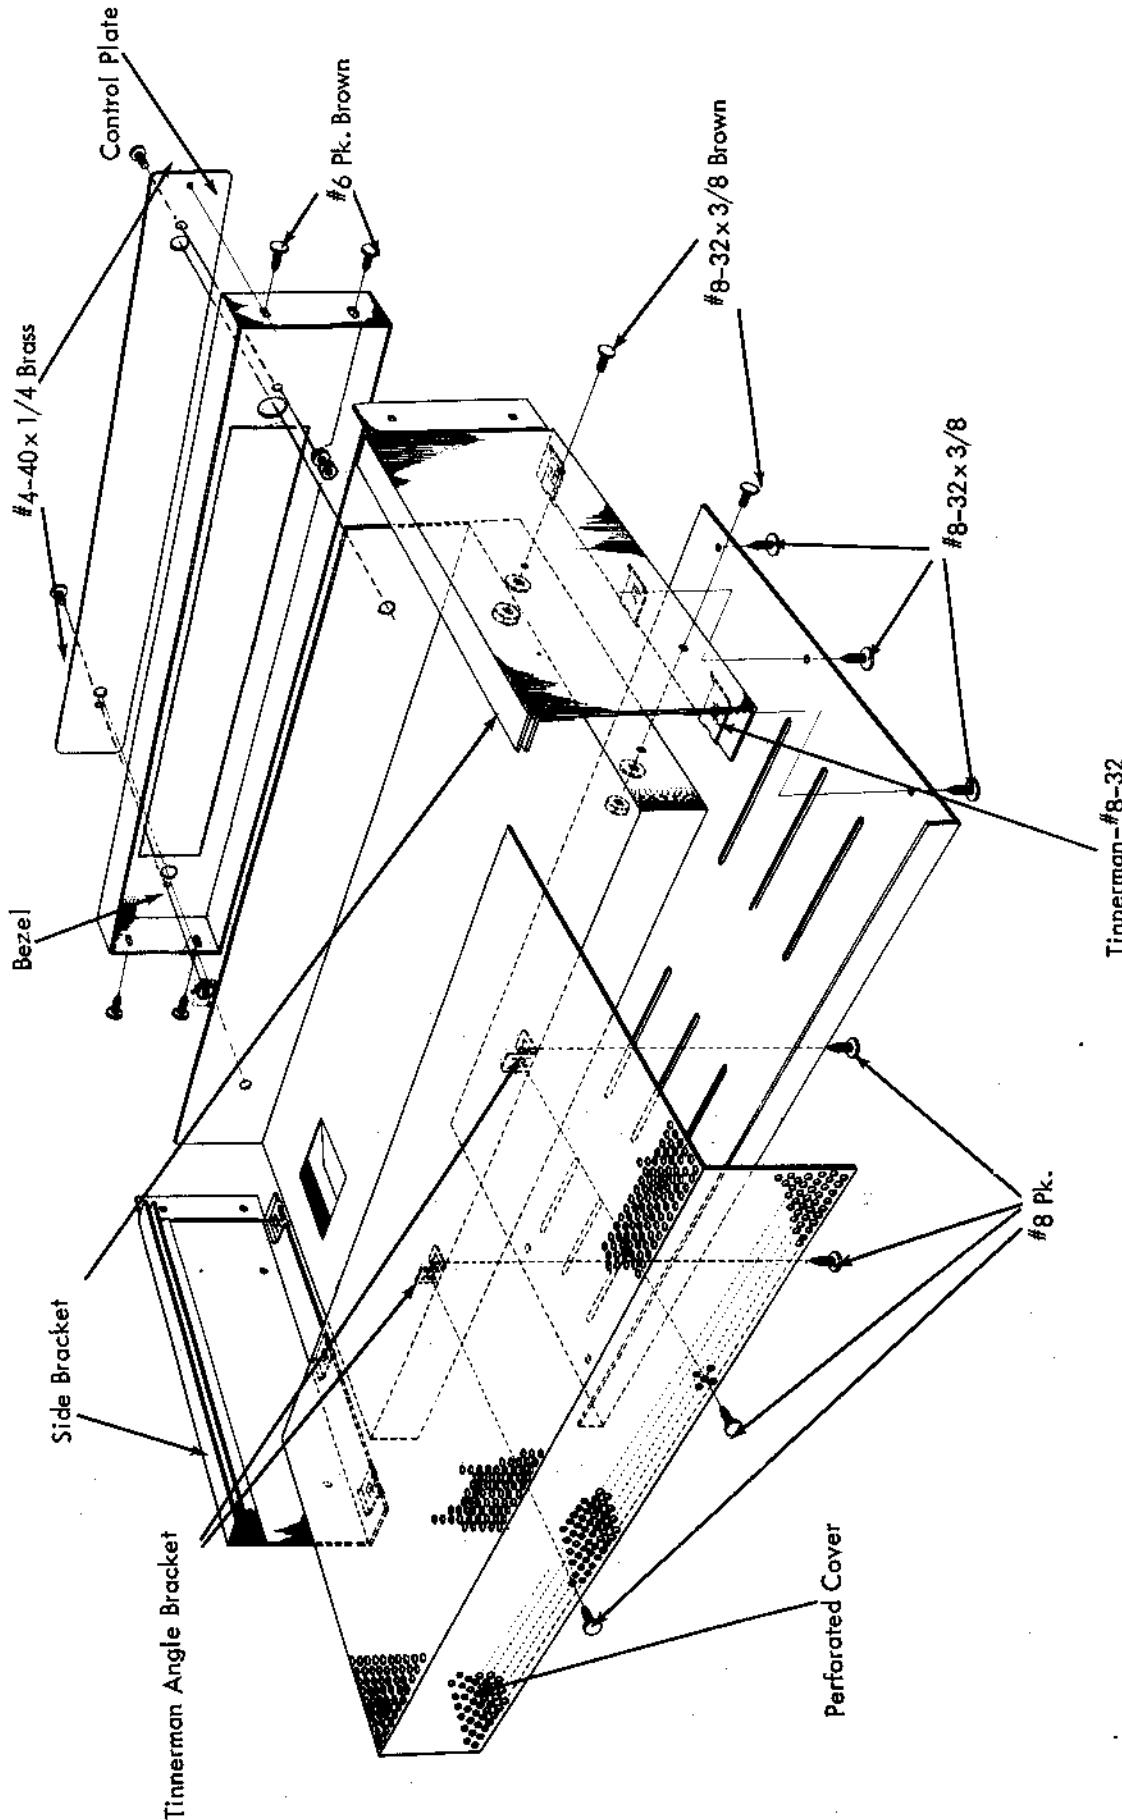

Fig. 10
4. (✓) Fig. 10. Assemble the left and right side pieces to the chassis. Each side piece is mounted with two #8-32 x 3/8 brown colored screws, two #8-32 hex nuts, and two #8 lockwashers.
5. (✓) Fig. 10. On the bottom plate of each side piece, press a tinnerman #8-32 - Type J speed nut in place over each of the three holes.
6. (✓) Fig. 10. Mount the bottom plate on the bottom flanges of the side pieces, using six #8-32 x 3/8 uncolored screws. Note that the rear flange on the bottom plate fits over the outside of the rear chassis apron.
7. ( ) Fig. 10. Install the rubber feet in the openings provided in the bottom plate. The method is to work the rounded portion of each foot into the interior of the cabinet from the outside, using a small screwdriver. The flat surface of the bottom plate is the outside and the surface with the two flanges is the inside. When finally mounted, the flat surface will be seen while the sur-
8. (✓) Fig. 10. Insert the perforated cover into the "rails" on the side pieces and slide it forward fully.
9. ( ) Fig. 10. Mount the control plate on the bezel using two each #4-40 x 1/4 screws, #4 lockwashers and #4 hex nuts to fasten it to the bezel. Note that the narrower portion of the cutout in the bezel is at the top. Press the plastic pilot jewel into place on the control plate.
10. ( ) Fig. 10. Fit the bezel and control plate over the projecting control and slide switch shafts, onto the ends of the side pieces and the perforated cover. Assemble the bezel to the side pieces with four #6 x 1/4 brown colored P.K. screws. Before tightening the screws finally, be sure there is adequate play to slide the perforated cover out.
11. ( ) Fig. 10. Fasten the perforated cover to the two tinnerman angle brackets (previously mounted on the rear edge of the chassis surface) using two #8 P.K. Type Z screws.
12. ( ) Fig. 10. Set all controls to the furthest counter-clockwise position. Mount the knobs on the shafts with the indicating dots pointing as follows: SELECTOR knob at AUX A; MODE knob to AMPL. 1; LEVEL knob at 0, BASS and TREBLE knobs to -5. Note that all clutch controls are at their maximum counter-clockwise position.